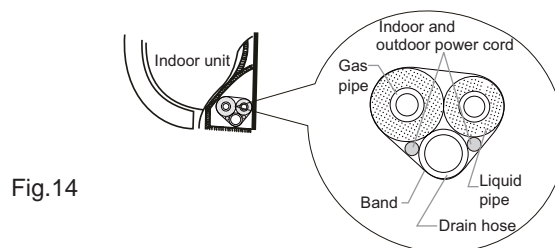

Fig.14
- (1) Bind the connection pipe, power cord and drain hose with the band.(As show in Fig.14)